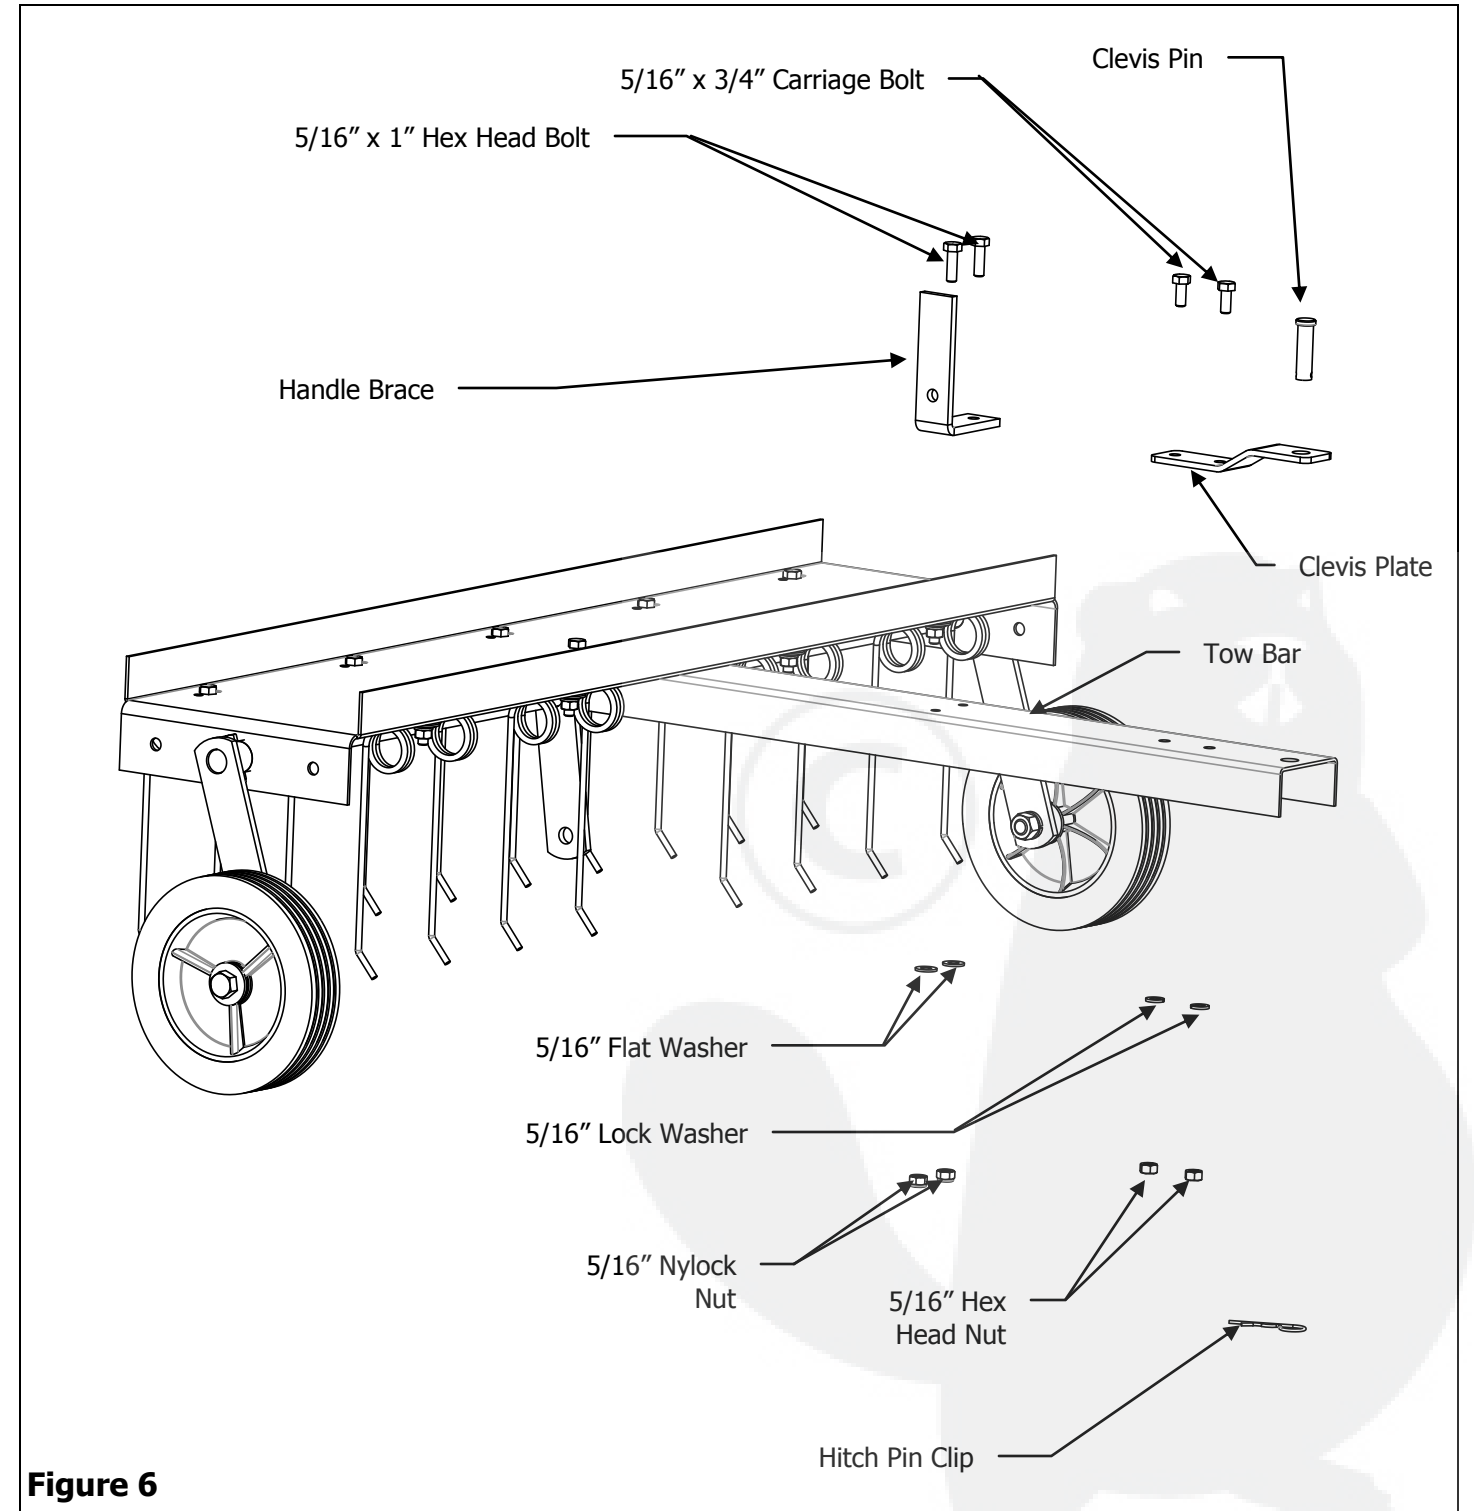

Figure 6
6. Align the two holes of the Tow Bar and Handle Brace as shown. Insert a 5/16" x 1" Hex Head Bolt into one of the holes in the Handle Stop and then through the corresponding hole in the Tow Bar, place a 5/16" Flat Washer on to the bolt, and secure with a 5/16" Nylock Nut. Repeat process on the next hole. Insert a 5/16" x 3/4" Carriage Bolt into one of the two smaller holes on the Clevis Plate and then into the corresponding hole in the Tow Bar, place a 5/16" Lock Washer onto the bolt and secure with a 5/16" Hex Head Nut. Repeat process on the next hole. Insert the Clevis Pin through the larger front hole of the Clevis Plate and through the hole in the Tow Bar and secure with the Hitch Pin Clip. See Figure 6.